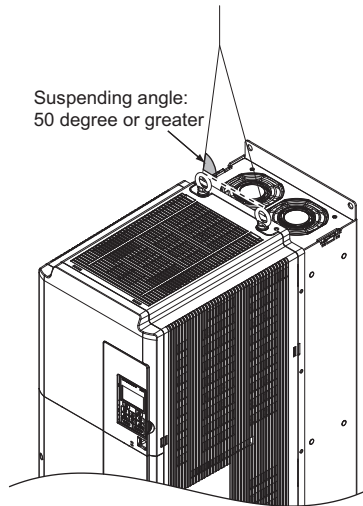

Figure 2.6 Drive Suspension Using Wires and Eye Bolts (2□0028)
**WARNING! Crush Hazard.** Use an adequate length of wire to ensure a 50° or wider suspension angle as illustrated in Figure 2.6. The maximum allowable load of the eye bolts cannot be guaranteed when the drive is suspended with the wires at angles less than 50°. Failure to comply may result in serious injury or death from falling equipment.